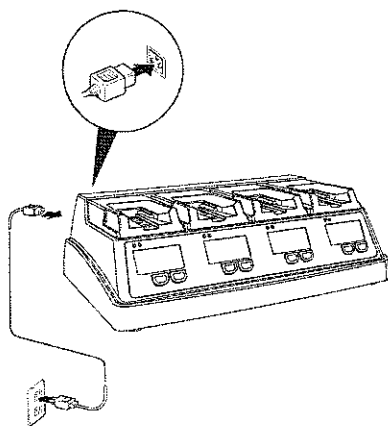

Figure 1 Power Connection
1. Plug the power cord into the receptacle on the back of the battery charger (see figure 1).